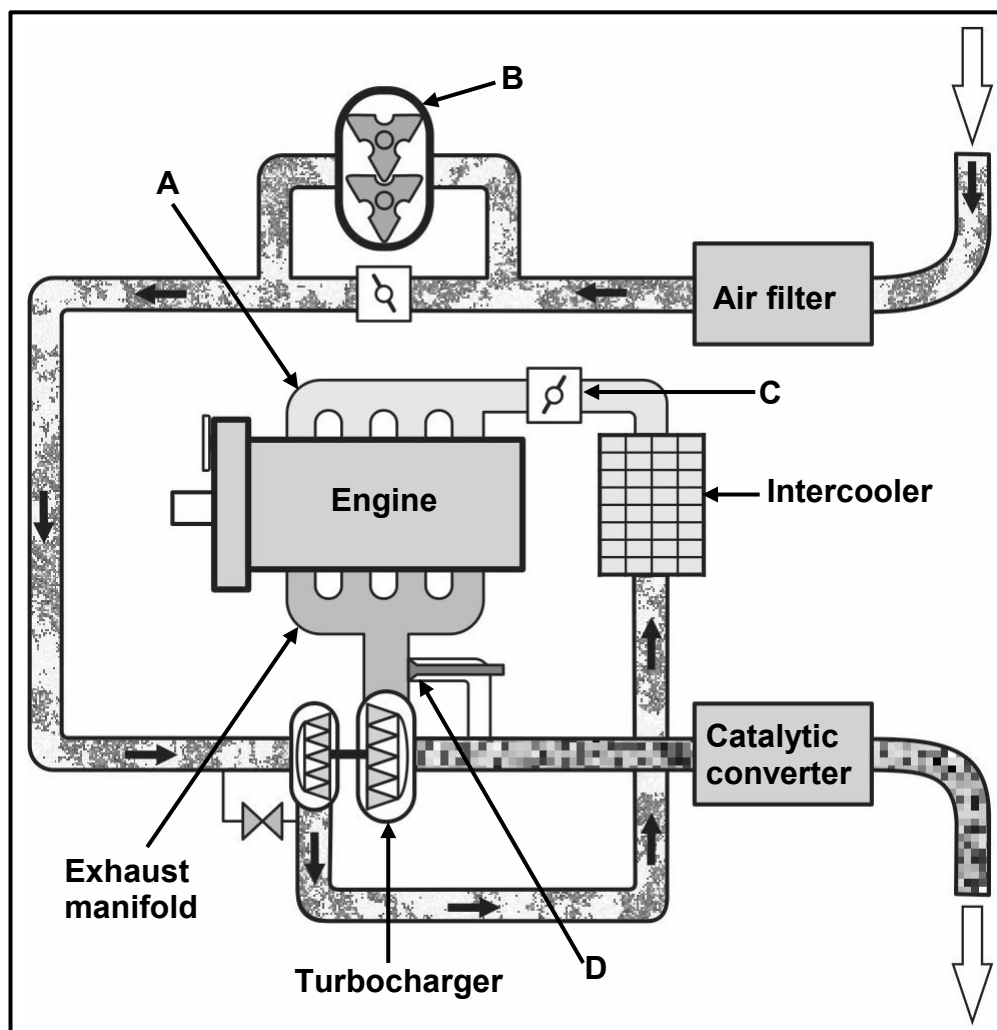

FIGURE 6.4
- 6.4 FIGURE 6.4 below shows a supercharger and a turbocharger fitted to the same engine. Answer the questions that follow.